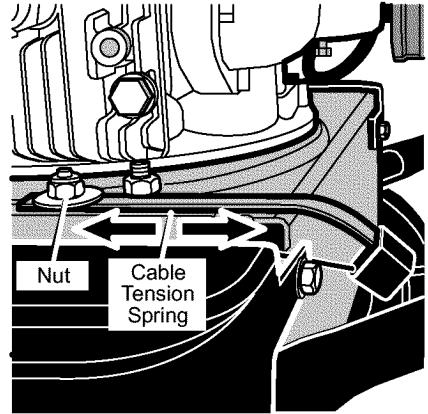

Figure 9
1. Loosen the **nut** that holds the **cable tension spring** (See Figure 9).